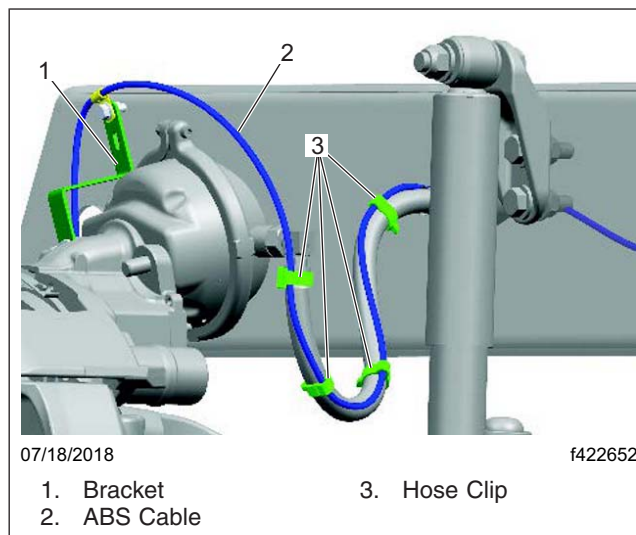

Fig. 3, Routing the ABS Cable
12. Using hose clips, route the ABS cable along the brake hose as shown in **Fig. 3**